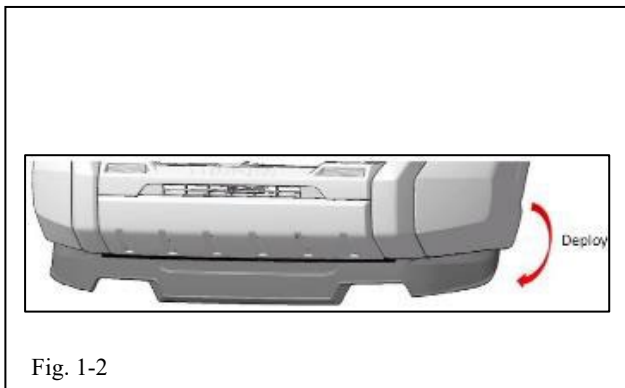

Fig. 1-2
- (h) Ensure the front spoiler is in the deployed position (Fig. 1-2).